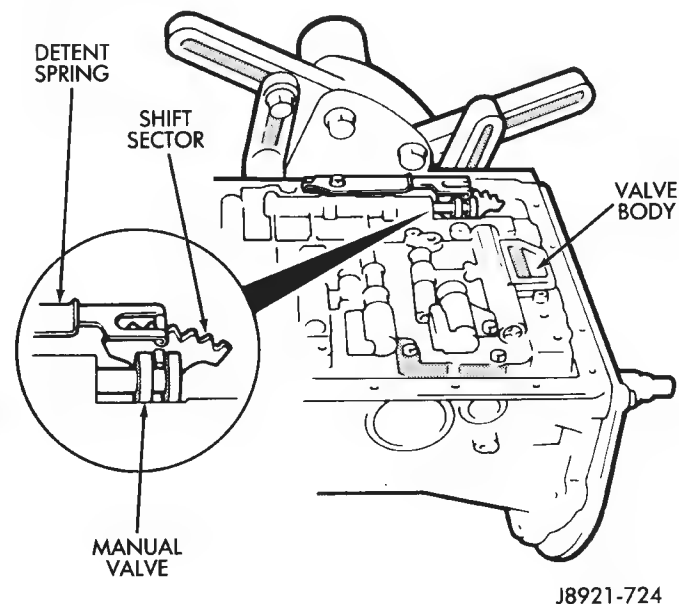

Fig. 59 Aligning Manual Valve, Shift Sector And Detent Spring
(75) Position valve body on case (Fig. 59).
(76) Install detent spring (Fig. 59).
(77) Align manual valve, detent spring and shift sector (Fig. 59).